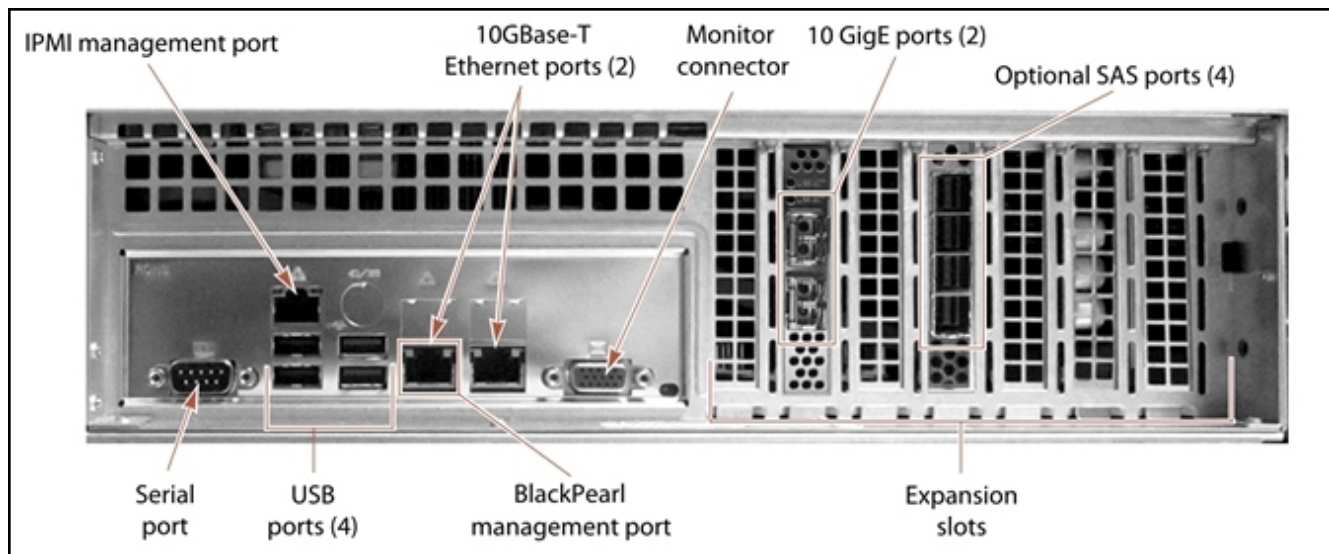

Figure 43 The BlackPearl NAS solution master node rear panel components.
Connect the interface cables to the system. Figure 43 shows the location of the connectors. The locations of the connectors are similar on the BlackPearl NAS solution 4U master node and the BlackPearl NAS solution 2U master node.
2. Connect an Ethernet cable from your network switch to the appropriate connector (10GBase-T or 10 GigE) on the rear panel of the master node (see Figure 43). This connection provides host access to the RAID storage on the master node. If you plan to configure link aggregation, connect additional cables as needed.
Insert the USB device into a USB port on the back of the system. See Figure 43 on page 54.